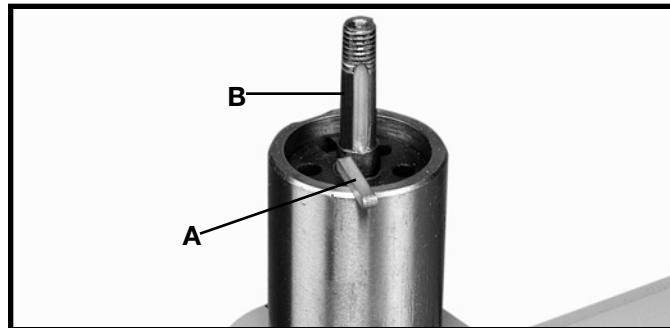

Fig. 7
1. Insert key (A) Fig. 7, into keyway (B) of raising and lowering shaft.